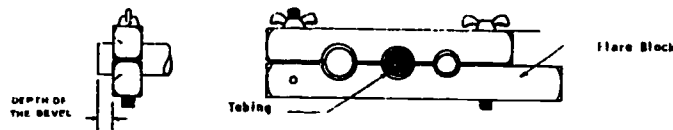

Figure 1. Tube Installed in Flare Block
3. Place the tubing in the flaring block (see figure 1).